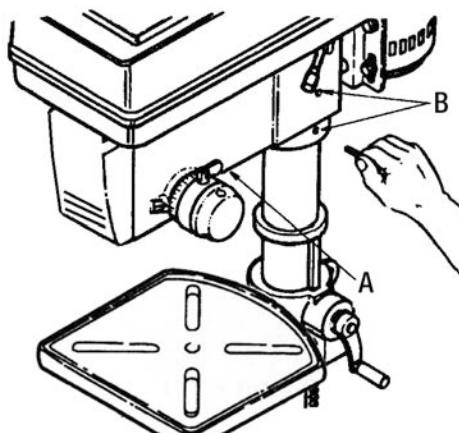

FIGURE 13A
1. Remove the protective covering from the head assembly (A) Fig.13A.
3. Using a 4mm hex. key, tighten both head set screws (B) on the right side of the head.